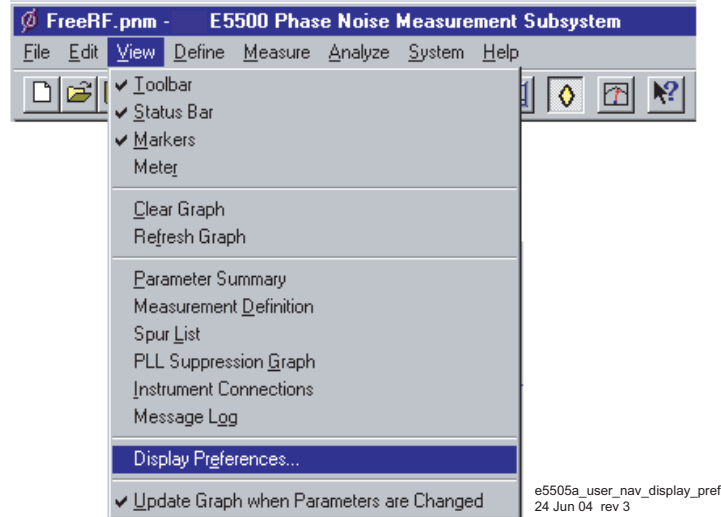

Figure 62 Navigate to display preferences
- 1 On the **View** menu, click **Display Preferences**. See Figure 62.